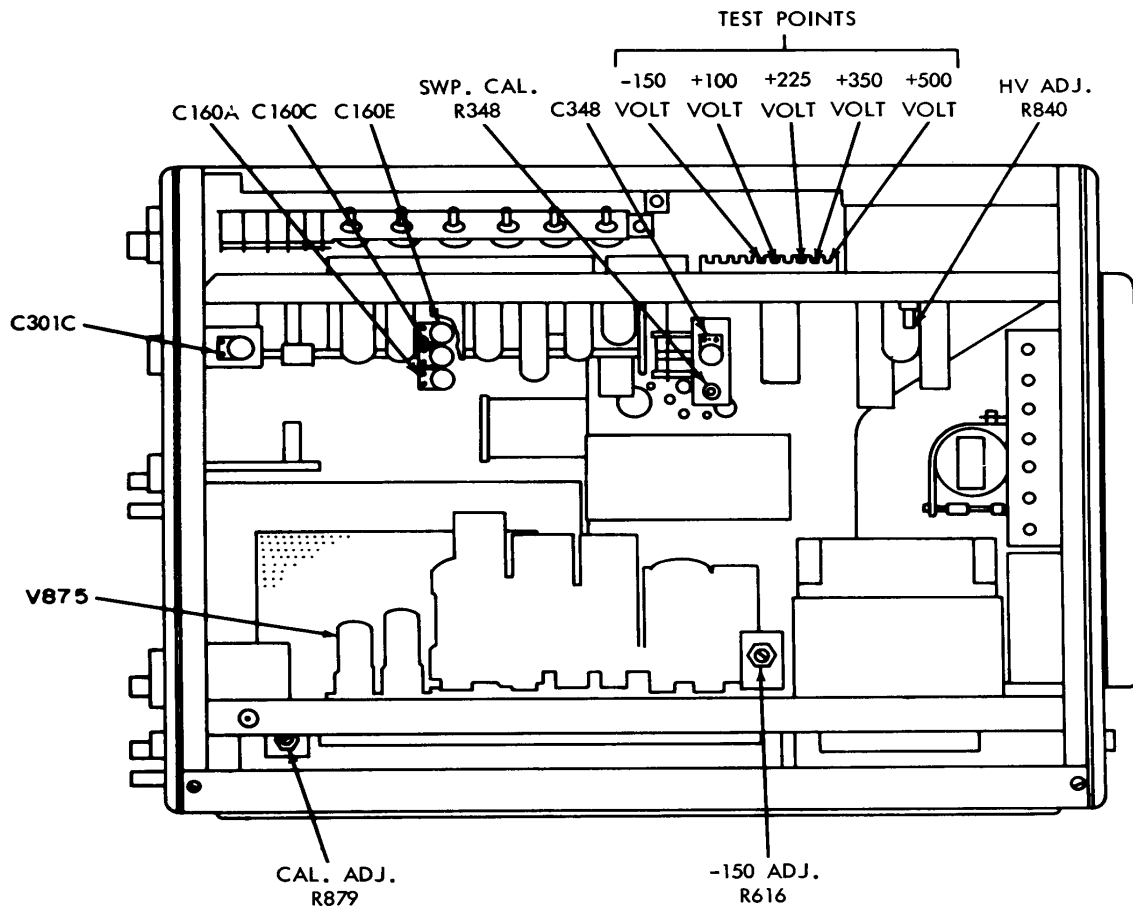

Figure 1. Oscilloscope - right-side view.
- (1) Set TI **POWER** switch to **OFF** and remove **V875** (fig. 1) from TI.
- (2) Set TI **POWER** switch to **ON**.
- (3) Connect ac/dc voltmeter (A2) between TI **CAL OUT** connector and chassis ground, using leads supplied with ac/dc voltmeter and, if necessary, adapter (B2).
- (4) Turn TI **AMPLITUDE CALIBRATOR** switch to settings listed in table 4. If ac/dc voltmeter does not indicate within limits specified, perform **b** below.
- (5) Set TI **POWER** switch to **OFF** and replace **V875**.
- (6) Set TI **POWER** switch to **ON**.
- (1) Turn **AMPLITUDE CALIBRATOR** switch to **100 VOLTS**.
- (2) Adjust **CAL ADJ R879** (fig. 1) until ac/dc voltmeter indicates 100 volts.
(2) Adjust **C301C** (fig. 1) for optimum square wave. (R)